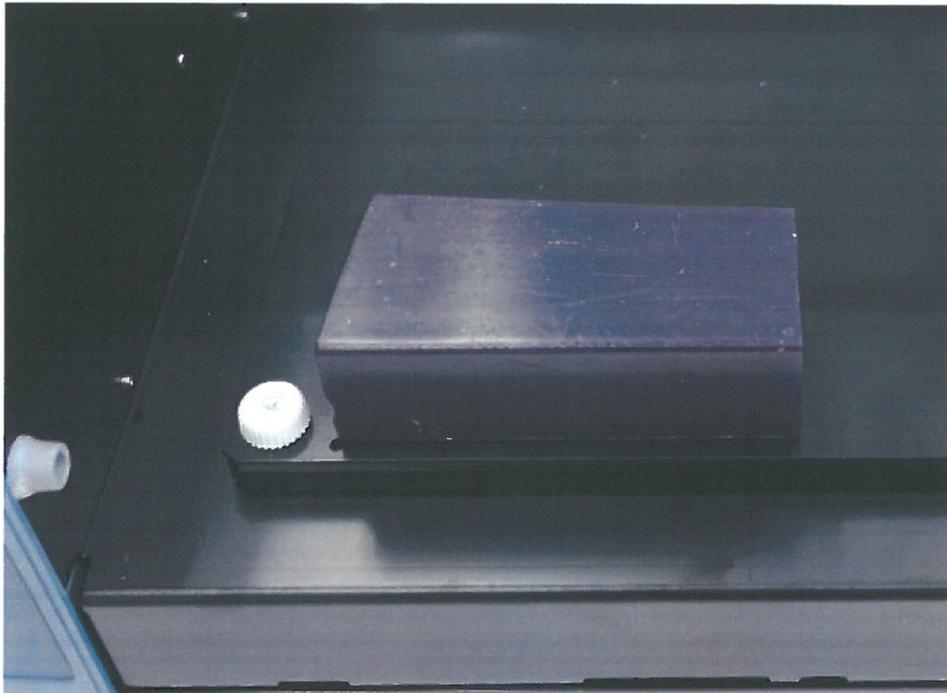

Figure 4: Material Placed in Lower Left Corner
3. Place a corner of the piece at the bottom left of the milling plate with the tape side down. Lightly push on material to ensure it does not move. If material is loose, clean material and machine before reapplying tape (Figure 4).
12. To Set a zero for the z-axis, press the **DOWN** button on the machine until the cutter just touches the surface of the material. You will want to do this slowly as you get closer to the material so as to not cut the material. Refer to Figure 4 for the down button location.